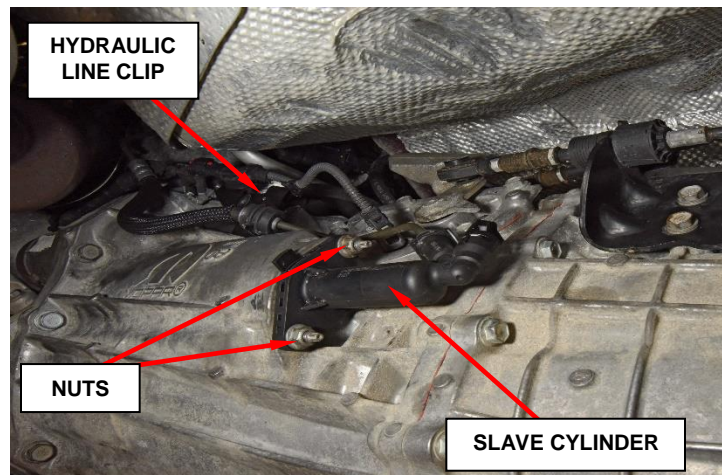

Figure 12 – Slave Cylinder
18. Remove the clutch slave cylinder hydraulic line clip bolt and the 2 nuts, then remove the clutch slave cylinder and position aside (Figure 12).
17. Insert the slave cylinder into the transmission, and install the nuts and bolt, and tighten to 17 N·m (13ft. lbs.) (Figure 12).